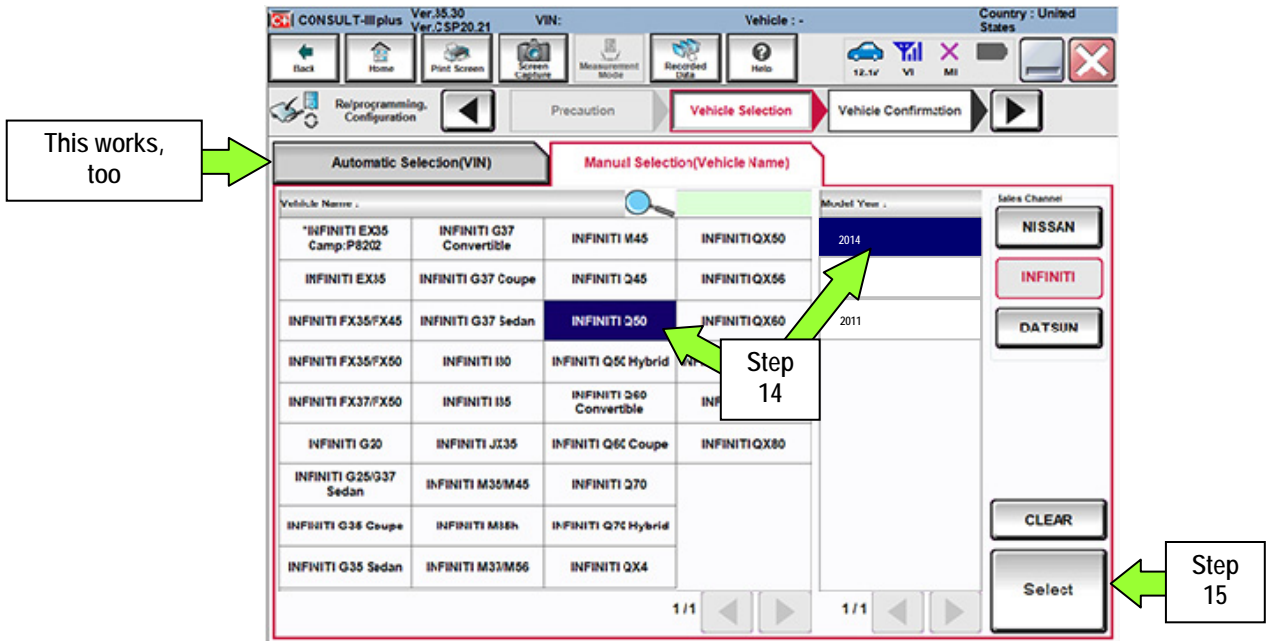

Figure 3
- If the screen in Figure 3 does not display, skip to step 16.